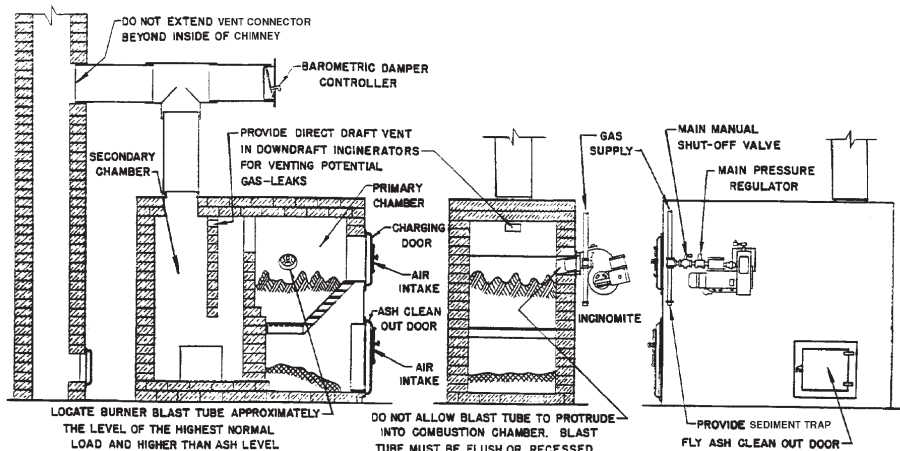

Figure 1 - Typical Installation
⚠ CAUTION: If the incinerator is of the down draft design, make sure that a direct draft vent opening of approximately 10 square inches has been put through the top of the drop section(s) to provide for the venting of any gas leakage. See Figure 1.
- A suitable Main Gas Pressure Regulator should be installed as shown in Figures 1 or 2. Choose a regulator(s) to adjust the available gas pressure to the pressure shown in SPECIFICATIONS, page 2.